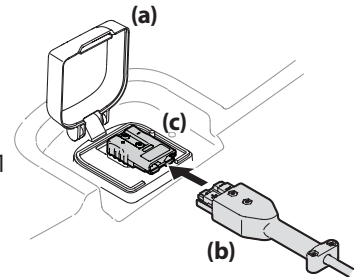
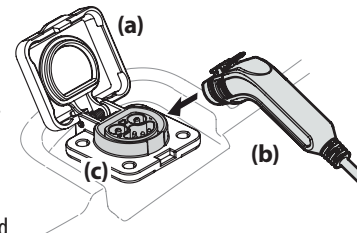

Figure 11
Figure 12
1. Lift the charge port cover (a). See Figure 11 for Style 1 and Figure 12 for Style 2.
2. Insert the charging cord (b) into the charging port (c). See Figure 11 for Style 1 and Figure 12 for Style 2.